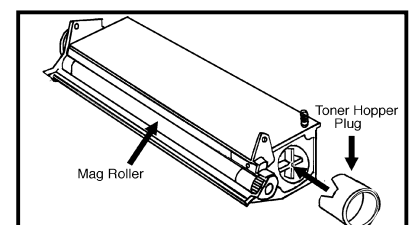

Figure 4
8. Remove toner hopper plug and empty out remaining toner (Fig 4). Use compressed air to remove all residual toner.